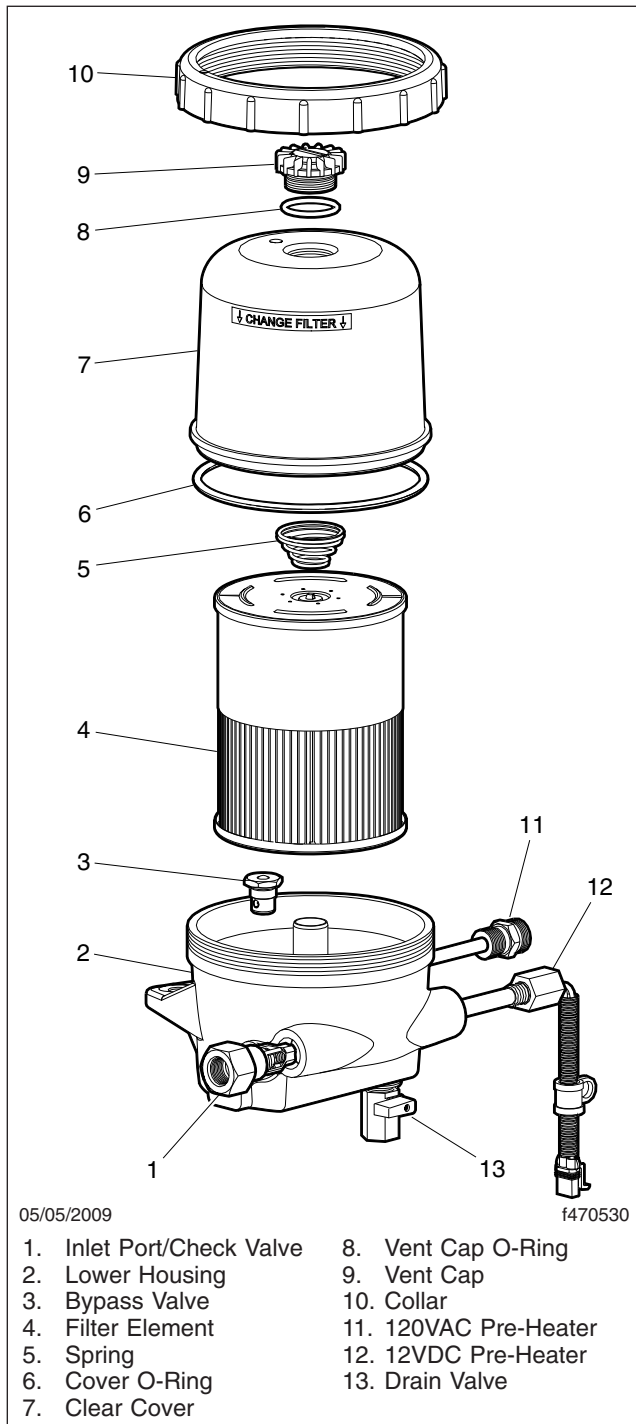

Fig. 24.2, DAVCO Fuel Pro 482
3. Remove the vent cap, shown in **Fig. 24.2**, Item 9, and open the drain valve, shown in **Fig. 24.2**, Item 13, to drain the fuel to just below the collar level, then close the drain valve.